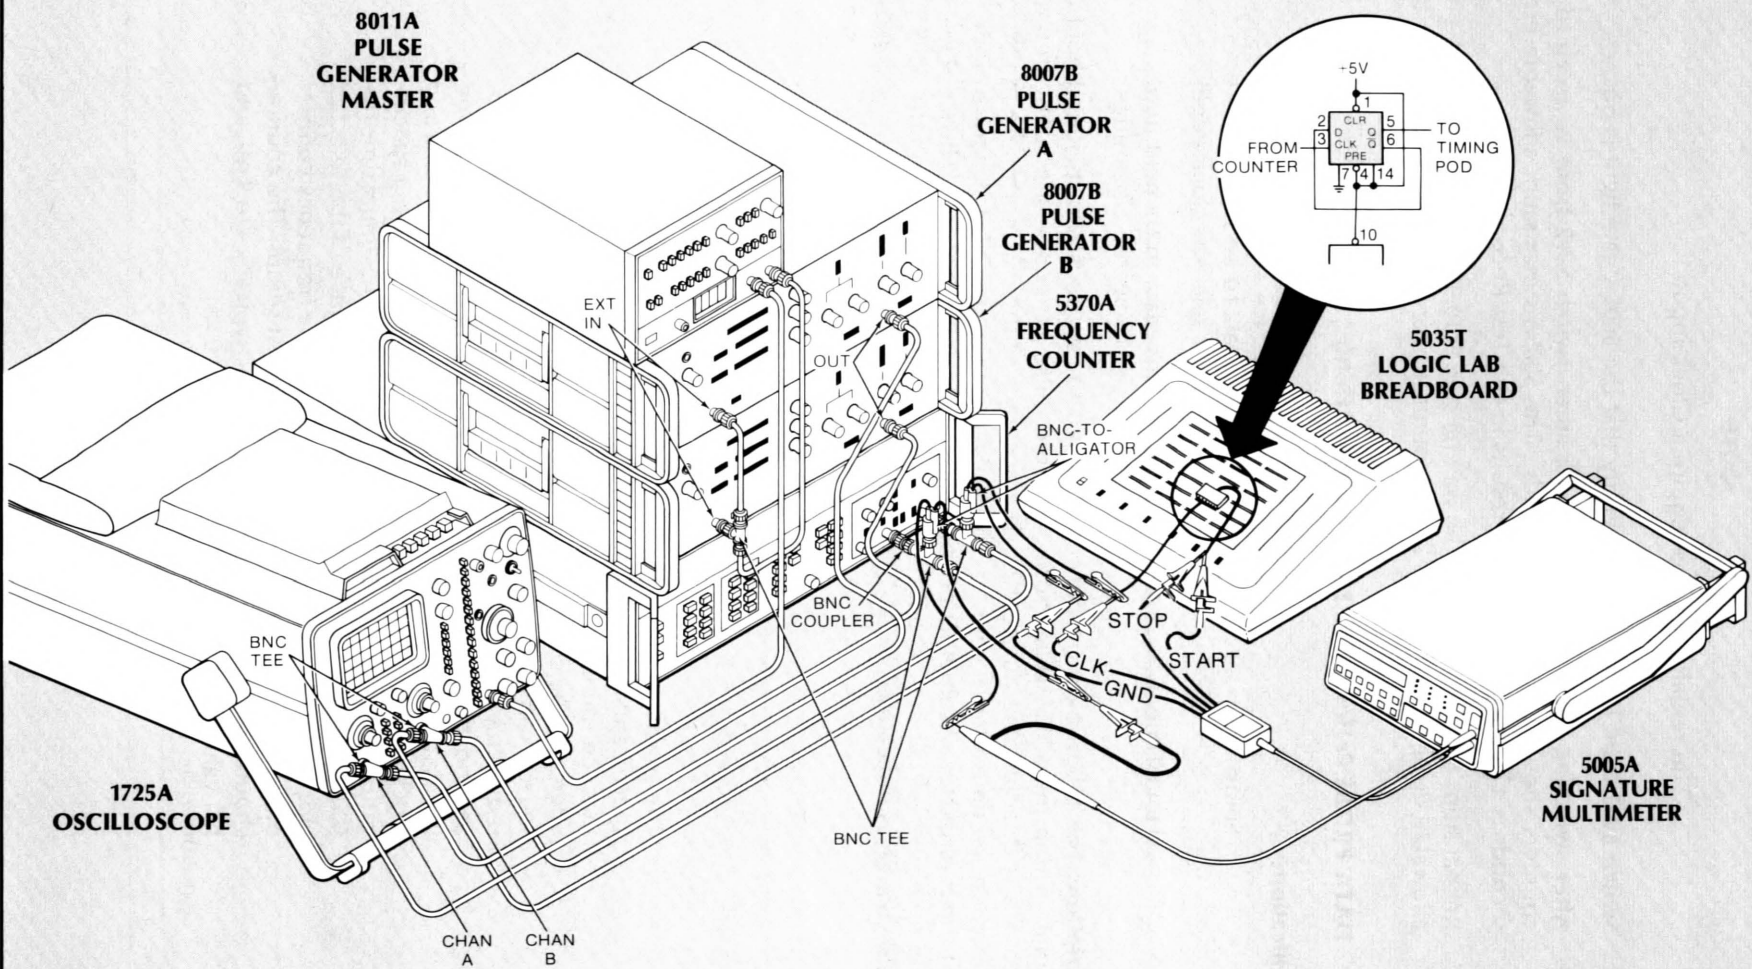
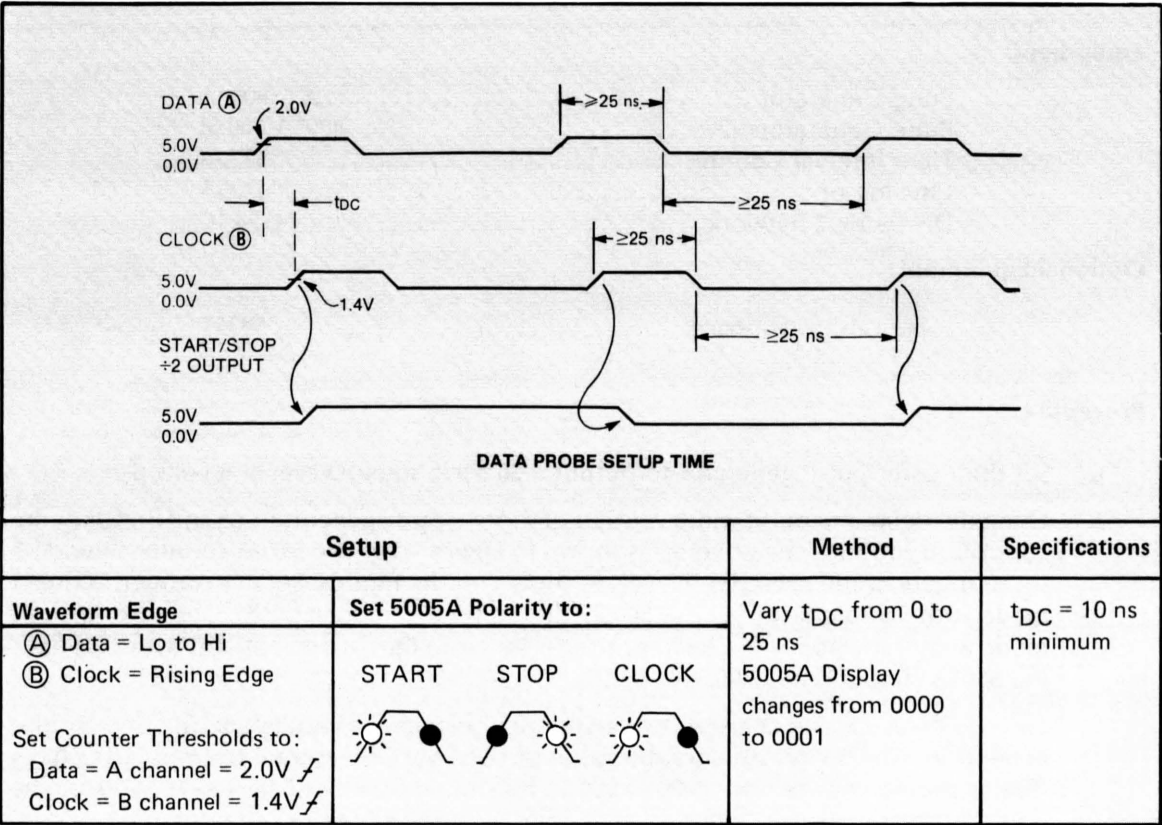
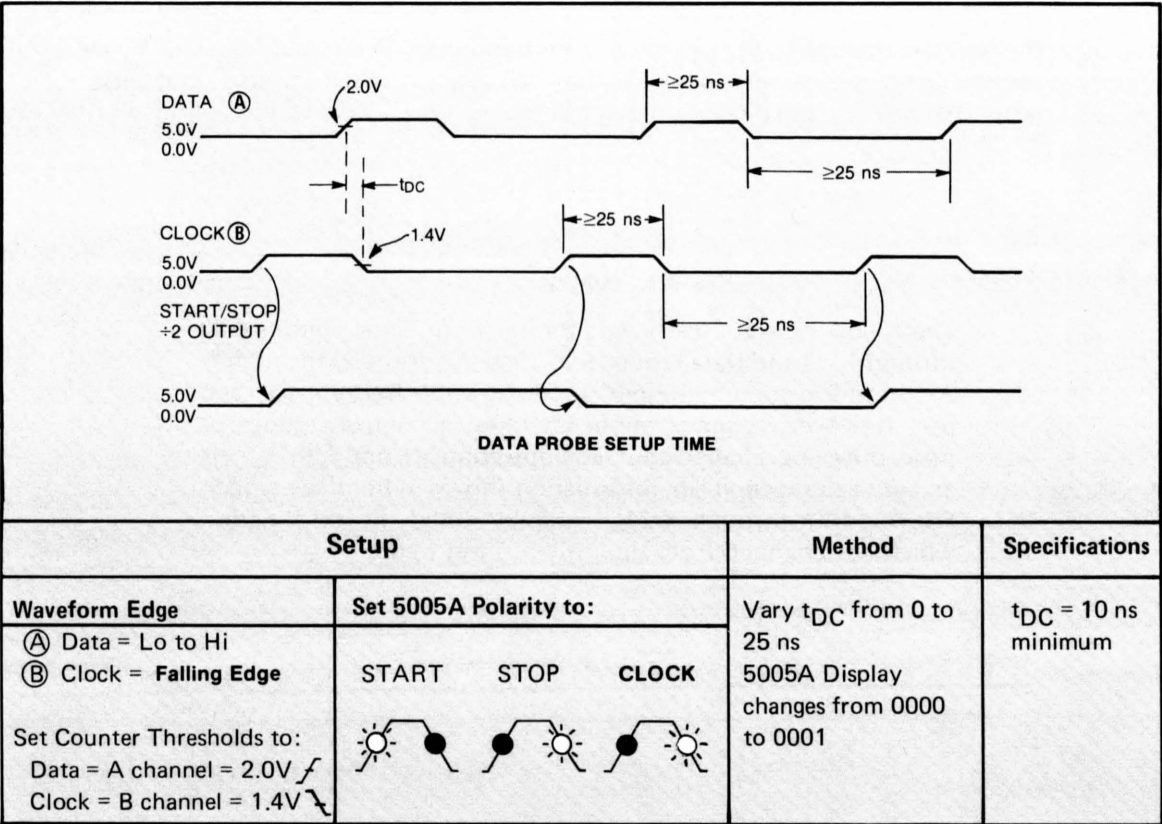
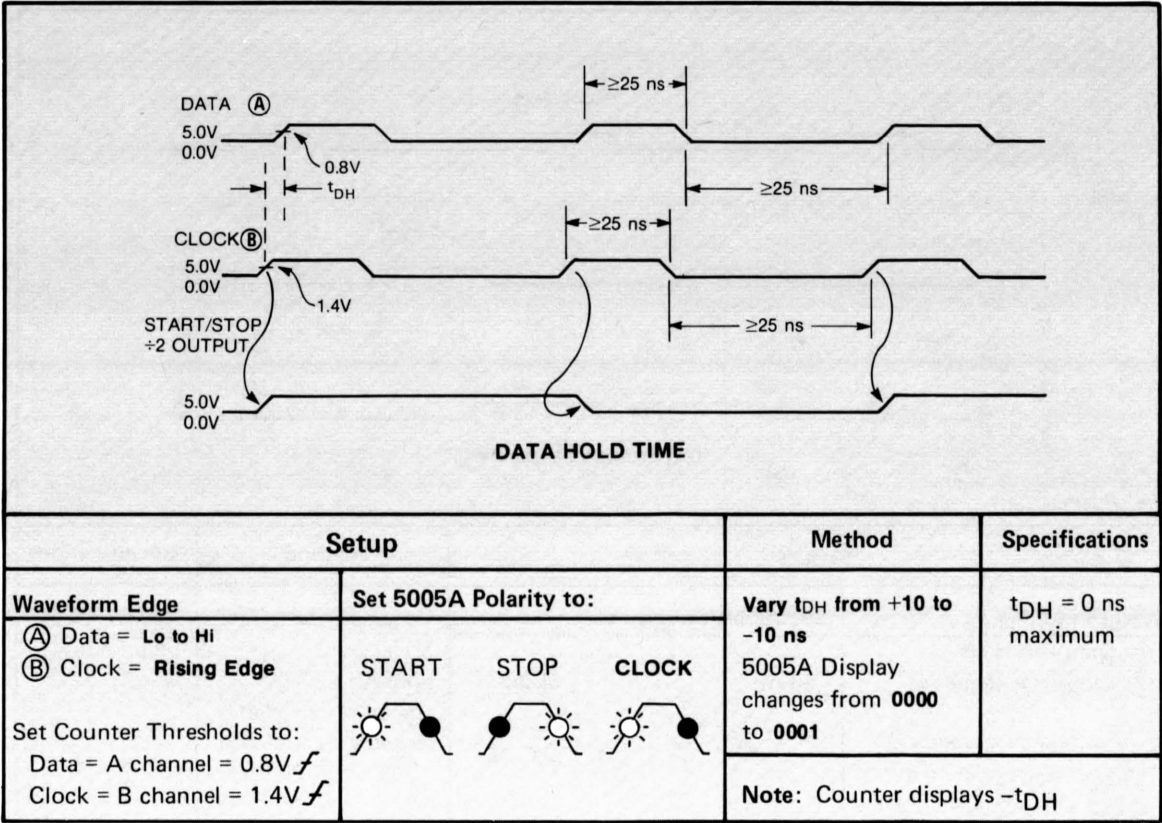

Figure 4-19. Data Probe Test Setup
Figure 4-20. Data Probe Setup Time — Test 1
Figure 4-21. Data Probe Setup Time — Test 2
Figure 4-24. Data Hold Time — Test 1
2. Using the delay and pulse width verniers of the two pulse generators (A and B), adjust the controls to produce the waveforms shown in *Figure 4-20*. The 5370A counter should be set to trigger at the prescribed levels as shown on the figures. Set the counter to the TI mode with Sample Size =1. The 5005A should be set to the NORM Signature Analysis mode with Start, Stop, and Clock controls as shown in the figures. Initially, with a $t_{DC}=0$ ns, the 5005A should read 0000.
4. Repeat the procedure for the remaining three t_{DC} tests, changing the tested slope edges as indicated in *Figures 4-21* through *4-23*. Record the results on the Test Record.
The following eight tests (Data Probe Setup Time, *Figures 4-20* through *4-23* and Data Probe Hold Time, *Figures 4-24* through *4-27*) all utilize the equipment setup shown in *Figure 4-19*. Each test, however, requires minor changes in control settings or procedure (e.g. change counter slope control from \uparrow to \downarrow). As an aid to the technician, information shown in boldface type in *Figures 4-21* through *4-27*, highlight (only) the information which has changed from the previous test figure.